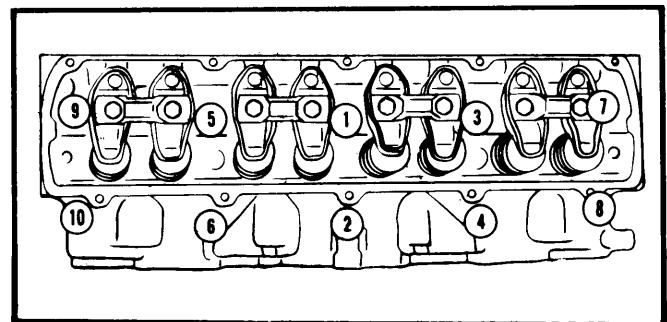

Fig. 2 Cylinder Head Tightening Sequence
2) Clean and dip cylinder head bolts in engine oil and tighten in two steps. See Fig. 2.